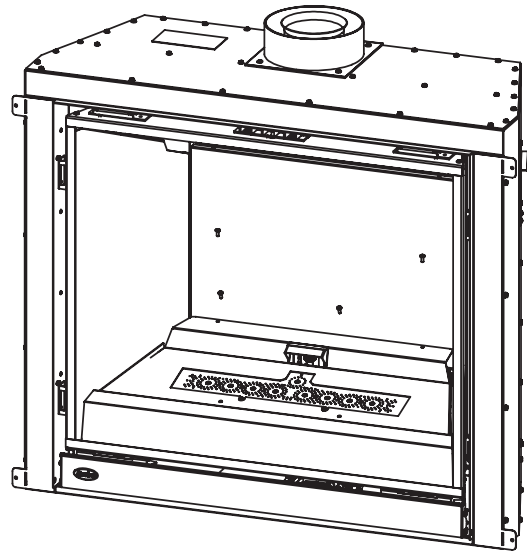

Figure 10. Removing Glass Tray
Step 2: Remove the glass media and the enameled glass tray as shown in Figure 10.